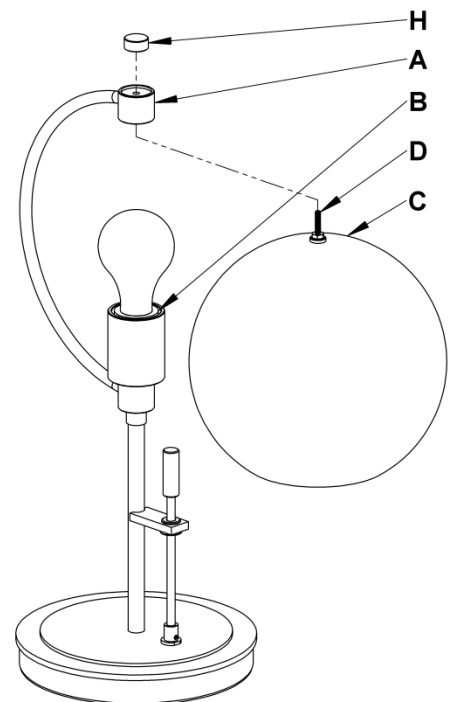

Figure 2
7. Tilt glass (C) over bulb. Slide screw (D) up through hole in top of fixture (A). Thread cap (H) onto end of screw (D) to secure glass (C). Turn cap (H) and glass (C) in opposite directions to ensure a tight fit. (Figure 2)